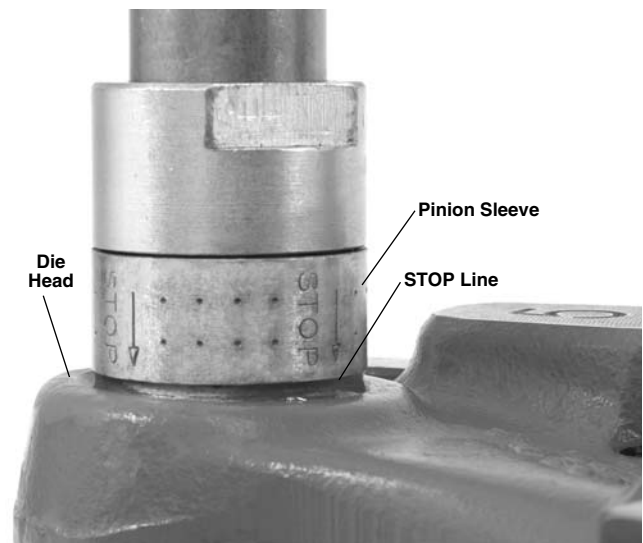

Figure 8 – Thread Complete – Top of Die Head Flush With STOP Line
5. Continue ratcheting until the top edge of the die head is flush with the red stop line on the pinion sleeve (*see Figure 8*).
12. Continue threading until the edge of the die head is flush with the red stop line on the pinion sleeve (*Figure 8*). Release foot switch. If threading is continued past the red stop line, the pinion shaft will disengage to prevent jamming. Do not continue to operate with the pinion shaft disengaged – over time this can cause tool damage.